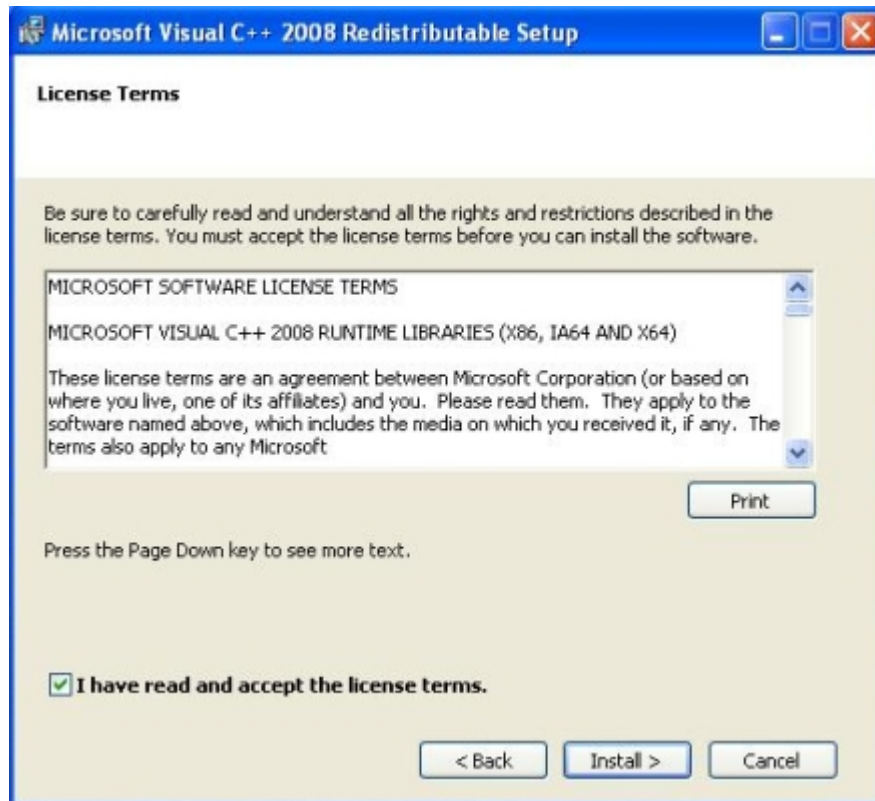

Figure F. 8 - Accept the Microsoft Visual C++ 2008 Redistributable License
8. Read and accept the Microsoft Visual C++ 2008 Redistributable license by checking the checkbox, Figure F. 8. Then click **Install**.